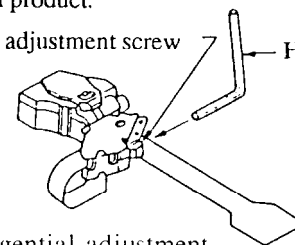

Fig. 5-4 Tangential adjustment
6. Reconnect the scope (no filter) to P105, probe to pin 1 RF and ground to pin 2 GND. While playing the last track of outermost edge of a TEST disc, using a 1.5 mm HEX wrench adjust the tangential adjustment screw for the clearest EYE PATTERN. See Photo 6 for waveform and Figure 5-4 for adjustment.